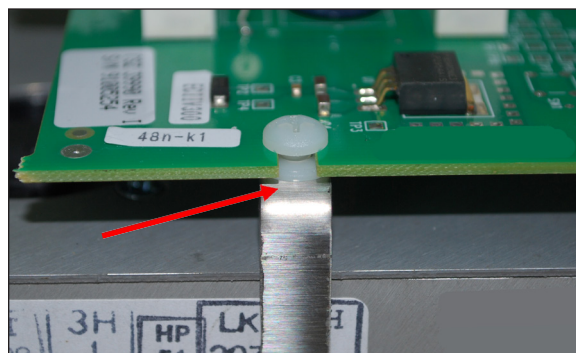

Figure 110 - Step 5 Remove three plastic washers (one shown)
5. Remove the three (3) plastic washers located between the control board and the thermoelectric bracket assembly at the same locations as the plastic screws (Figure 110). Do not discard. Set them aside for reuse.